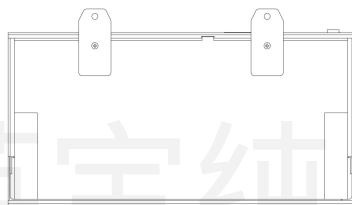

Figure 4.6 Schematic diagram of the installation state of the dual fixing plate
1) Remove the screws on the fixing plate of the sterilizer and pull the fixing plate straight up to the top, and re-install the screws, as shown in Figure 4.6;